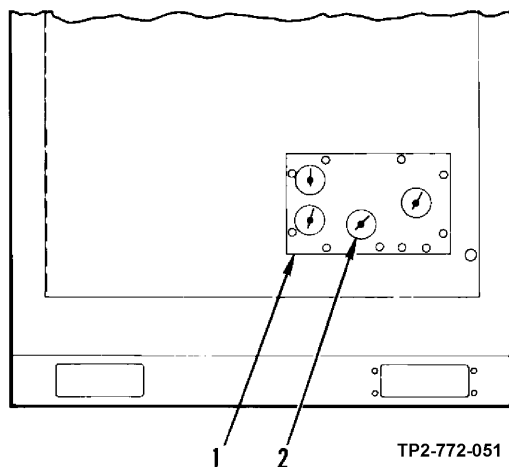

Figure 3-18. Gage Locations
- (4) On rear of pneumatic control panel (1, figure 3-18), verify that source gage (2) indicates a maximum of 125 PSI. Verify that the other three gages show a PSI indication. Gages will not indicate same pressure.